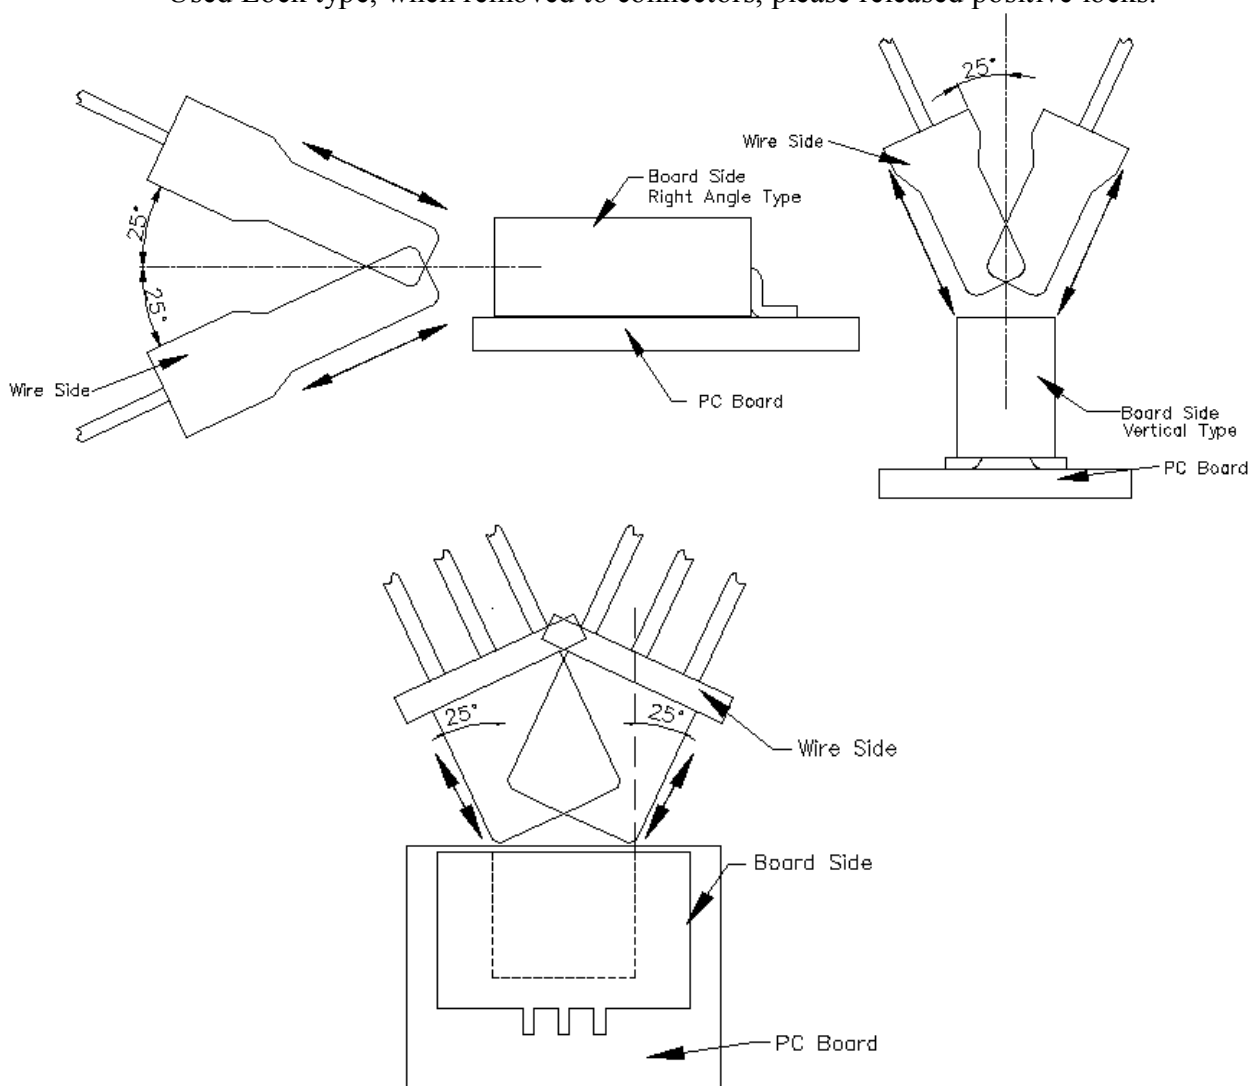

Figure 3.
- Do not insert and remove at an angle of  $25^{\circ}$  or greater. Doing so will cause contact deformation or case damage. (see figure 3).